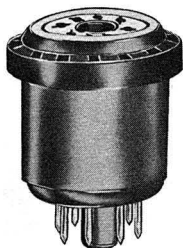

Fig. 301. Test adapter for making above-chassis voltage checks. Adapters for seven- and nine-pin miniature tubes are commercially available.
A shorted rectifier can kill both raster and sound by eliminating or greatly reducing B-supply voltages. This possibility can be checked by measuring the B-supply voltage. A fast check of the B voltage may be made, without removing the chassis from its cabinet, with the aid of a socket test adapter (Fig. 301). This unit makes underchassis socket contacts available *above* the chassis. If an adapter of this type is not at hand, withdraw one of the receiver tubes and measure the voltage between its plate or screen socket contact to ground. Make sure before trying this test that (1) the receiver does not have a series-filament hookup and (2)